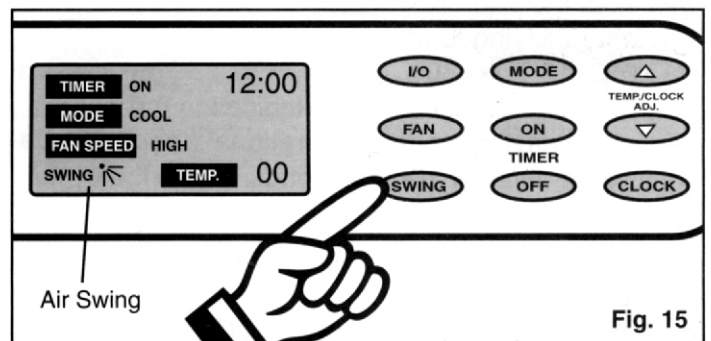

Fig. 15
- 6) Press the **SWING** key to activate the automatic air swing (oscillating) feature (the "air swing" symbol will appear in the **LCD** window). Fig. 15. To deactivate the air swing feature, press the **SWING** key again.